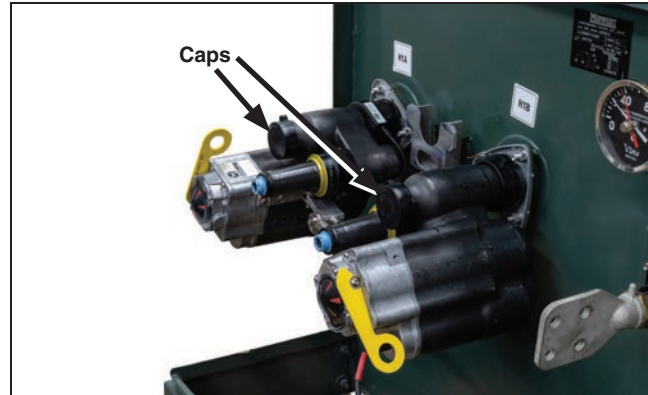

Figure 8. Remove the caps from the bushing well interrupters.
- STEP 1.** Remove the cap. See Figure 8.